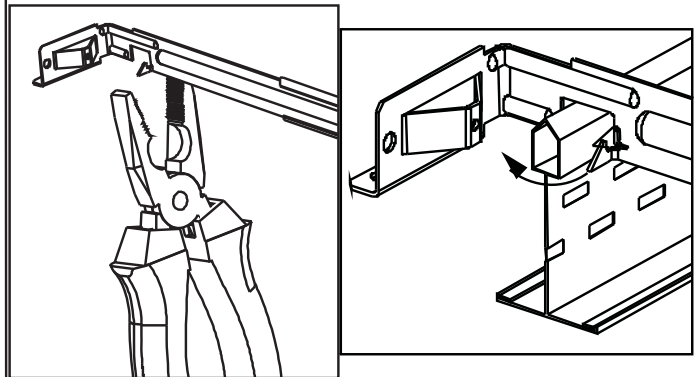

Figure 4
2. Locate the four (4) T-bar slots near the end of the bar hanger. Bend tabs out, slip the hanger bar over the T-bar and press the tabs back against T-bar to hold it in place (See Figure 4).